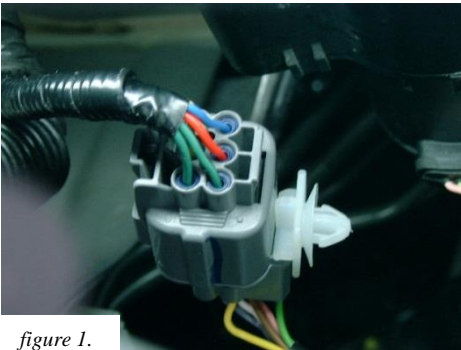

figure 1.
- Disconnect the connector (6-pole) in the wire from accelerator pedal to throttle actuator. This connector is mounted in the motor compartment on the partition wall (fig.1)